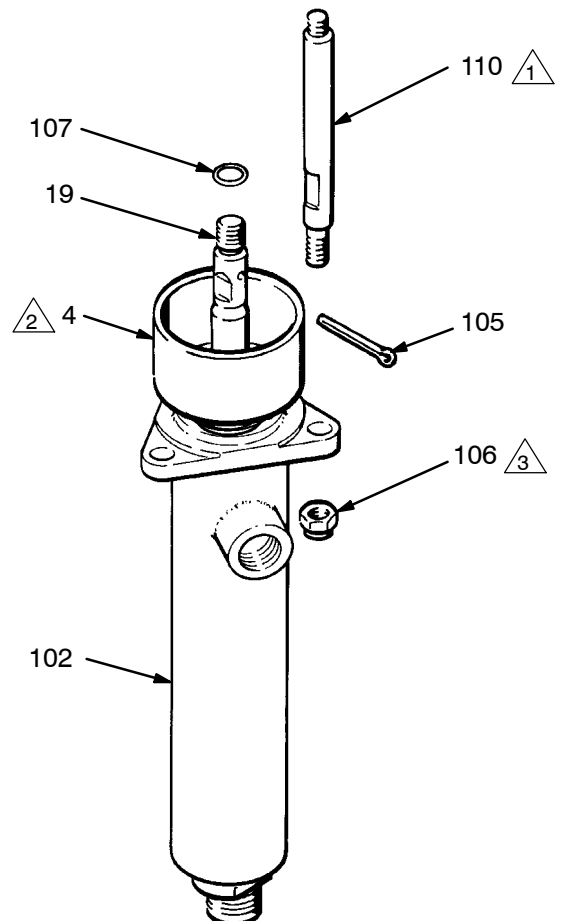

Fig. 3
3. Unscrew the tie rod locknuts (106) from the tie rods (110). Remove the cotter pin (105). Unscrew the displacement rod (19) from the air motor (101). Carefully pull the displacement pump (102) off the air motor (101). See Fig 3.
1. Screw the displacement rod (19) into the base of the air motor (101). Install the cotter pin (105). Orient the pump's fluid outlet to the air motor's air inlet as was noted in step 2 under **Disconnecting the Displacement Pump**. See Fig 3.
2. Position the displacement pump (102) on the tie rods (110). Screw the locknuts (106) onto the tie rods (110) loosely.
3. Mount the pump and reconnect all hoses. Reconnect the ground wire if it was disconnected during repair. Torque the packing nut/wet-cup (4) to 18-20 ft-lb (24-27 N.m). Fill the wet-cup with Graco Throat Seal Liquid or compatible solvent.
4. Tighten the tie rod locknuts (106) evenly, and torque to 25-30 ft-lb (34-41 N.m).